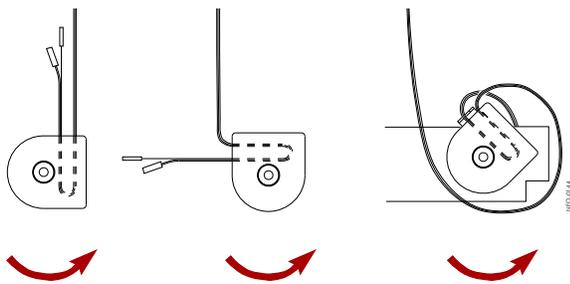

Figure 9. Wrapping the Cable Around the Spooler
- c. Rotate the spooler and cable **counter-clockwise** as shown in Figure 9.